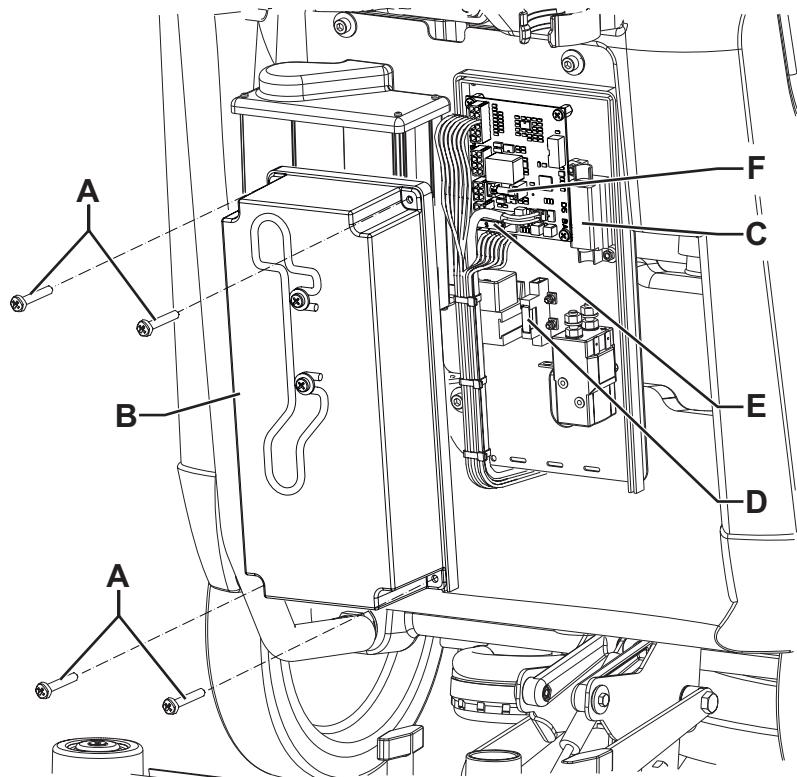

Figure 10
1. Disconnect the battery connector (29).
2. Remove the screws (A, Fig. 10), then carefully remove the electrical component box cover (B).
- (C): F1 (40 A) circuit breaker, brush motor
- (D): F2 (30 A) blade fuse, vacuum system.
- (E): F3 (5 A) blade fuse, solenoid valve and electronic board
- (F): F4 (20 A) glass fuse, brush disengagement system